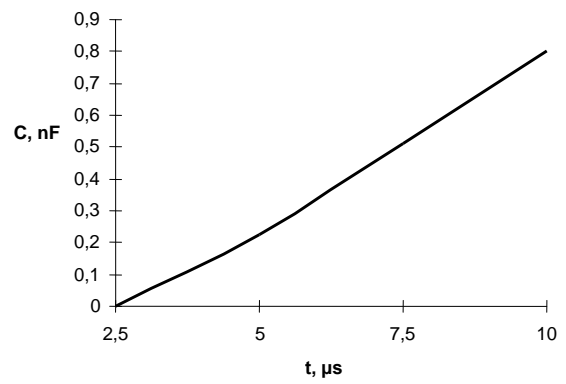

Figure 8 – Dependence of non-saturation protection operation delay duration versus capacitance rating  $C_{trip}$
**CTRIP H1, CTRIP H2, CTRIP H3, CTRIP L1, CTRIP L2, CTRIP L3, CTRIP IM** – capacitors for adjustment of non-saturation protection operation duration delay of relevant controlled transistor. Initially (initial settings at supply) capacitors are installed that correspond to duration delay 3.6  $\mu$ s. Dependence of non-saturation protection operation delay duration versus rating of the capacitors is shown on Figure 8.